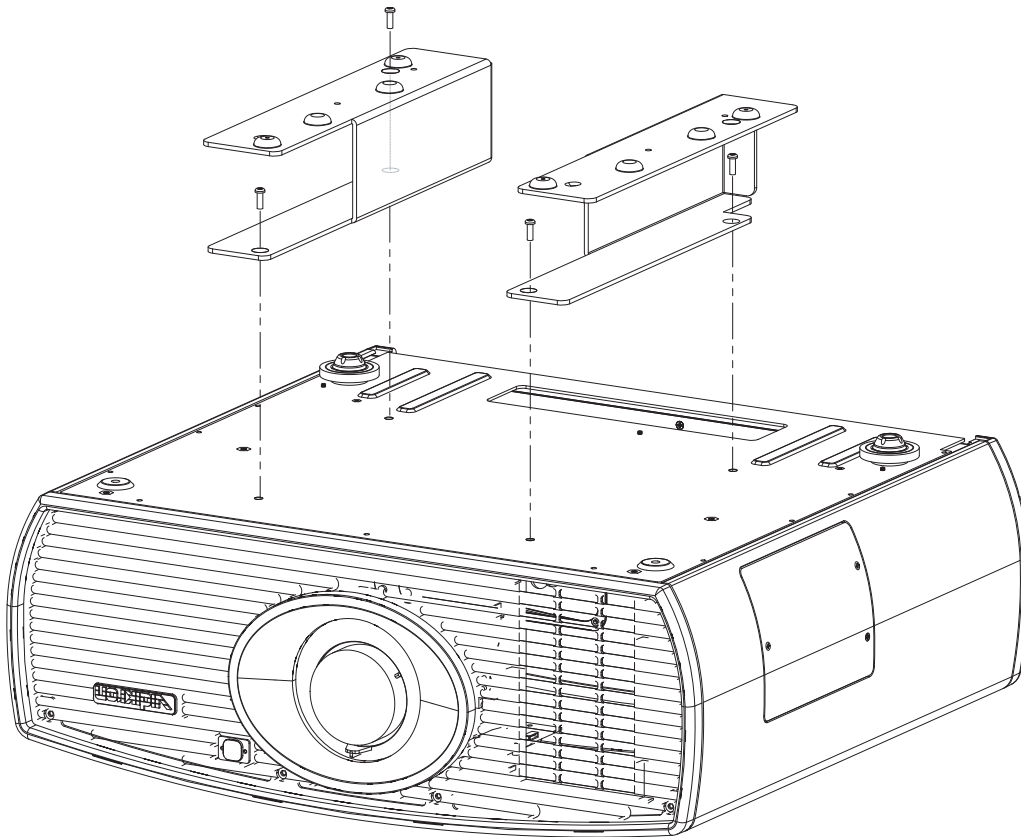

Figure 3-6. Vision 65/75 with Ceiling Mount Adapters/Projector Stands
Using the four (4), supplied M6 x 12mm Flat-Head Phillips screws (item #6), attach the AutoScope Ceiling Mount Adapters/Projector Stands (items #4 and #5) to the projector as shown in Figure 3-6.